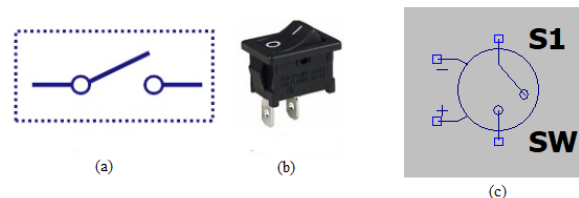

Figure 11: a) Schematic, b) image of a SPST switch, and c) LTspice symbol
1. Single-Pole, Single-Throw (SPST) switch (Figure 11): A switch that has only one set of contacts, which can be either open or closed.